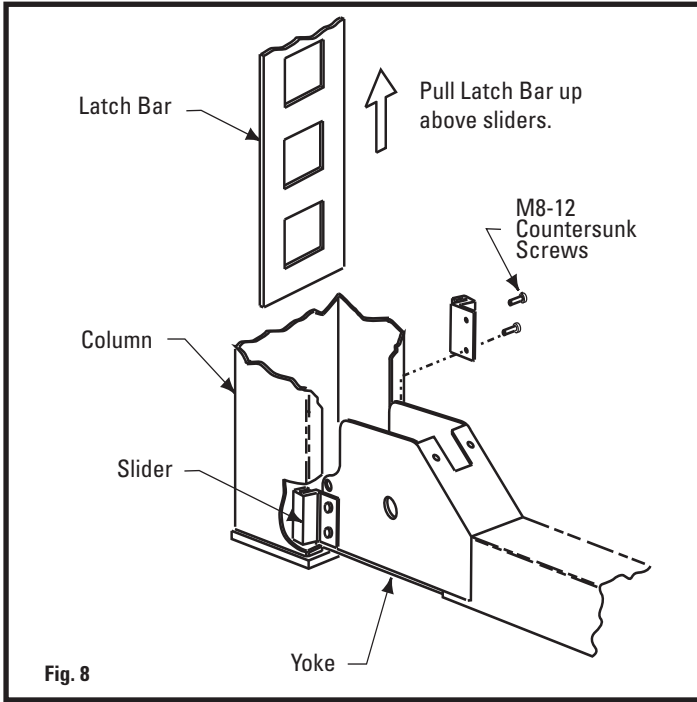

Fig. 8
- D. Start yoke end into the column, allowing slider bolt holes to stay exposed, Fig. 8. Bolt sliders onto each side of the yoke end with M8-12 screws provided. When both sliders are attached, push column toward yoke end until sliders touch latch bar.